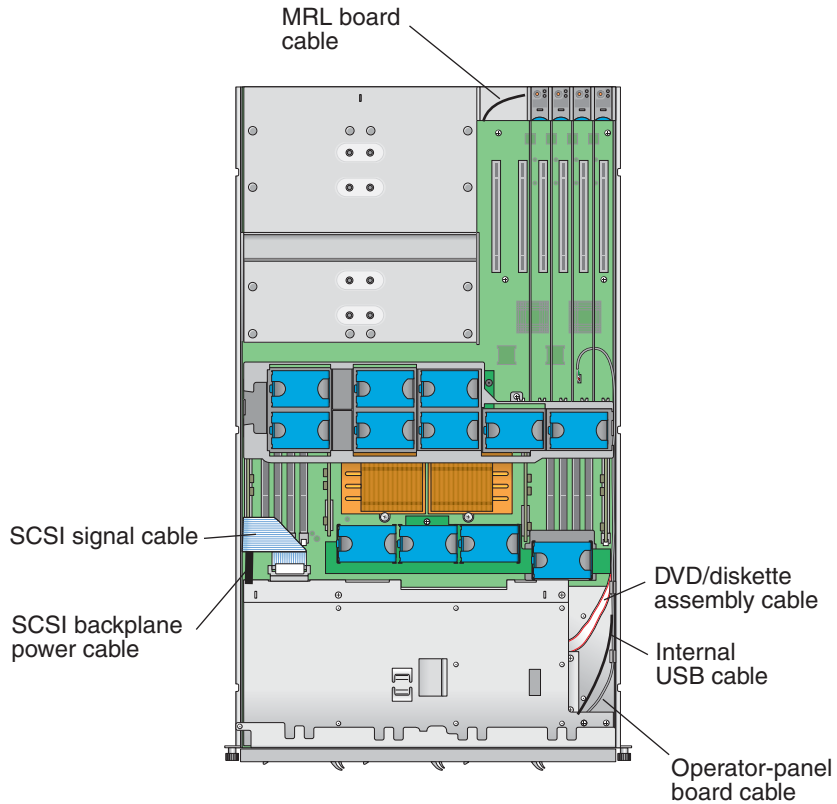

FIGURE 5-34 Sun Fire V40z Replaceable Cables
2. **Identify the cable to be replaced (see FIGURE 5-34 for the location).**